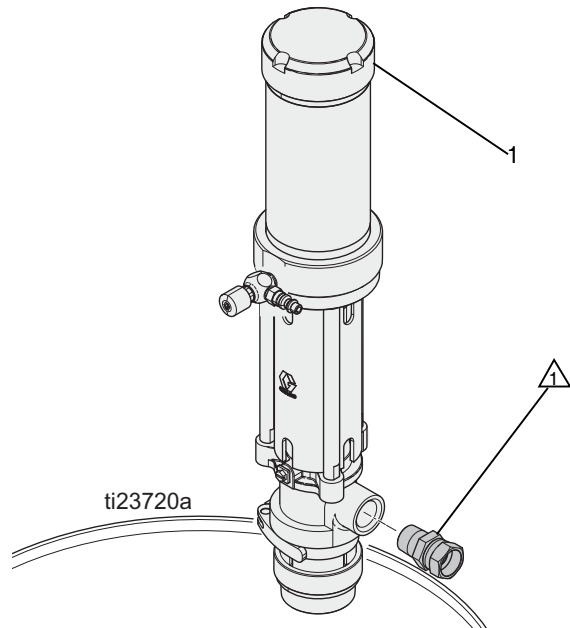

FIG. 5
2. Apply thread sealant to the male outlet fitting (not supplied) and insert into the outlet port. See FIG. 5.